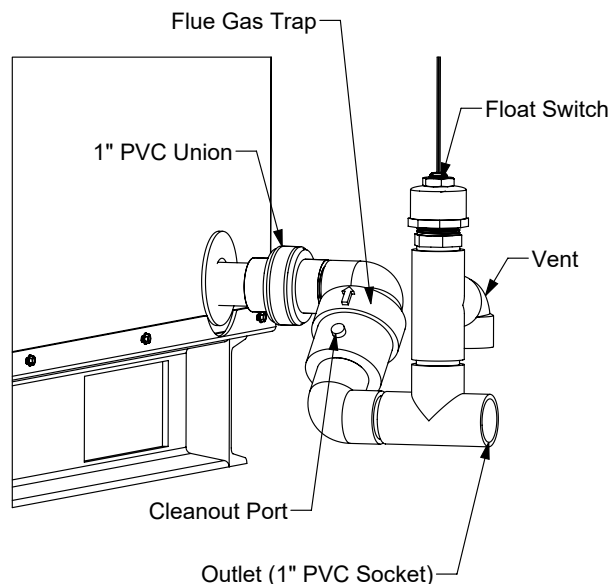

Figure 11: Condensate Trap Assembly
2. Install the condensate trap on the lower rear of the appliance as shown in Figure 11.